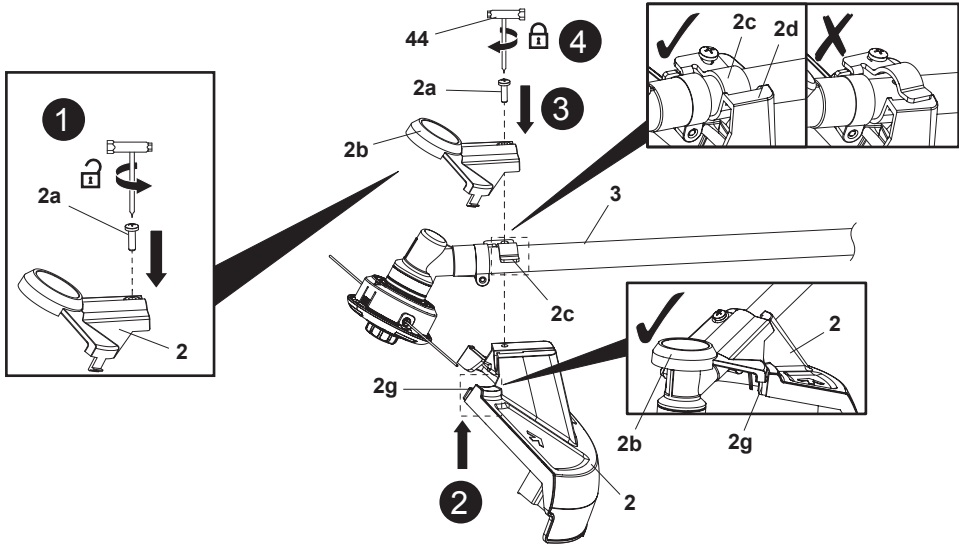

Fig. 2
1. Remove the mounting bolt (2a) from the guard (2) by using the supplied multi tool (44) and keep it handy (Fig. 2, step 1).
2. Align the guard (2) with the guard support (2c) on the grass trimmer / brush cutter pole (3) (Fig. 2, step 2) and hold it in place.
3. Align the guard cover (2b) with the guard support (2c) on the grass trimmer / brush cutter pole (3). Ensure that the sheet metal of the guard support (2c) is fully inserted the slot (2d) of the guard. Ensure the clip of the guard cover (2b) is pressed through the buckle (2g) of the guard (2) with an audible click sound (Fig. 2, step 3).
4. Make sure that the screw holes on guard (2), guard support (2c) and guard cover (2b) are well aligned.
5. Secure the connections with the mounting bolt (2a) clockwise by using the supplied multi tool (44) (Fig. 2, step 4).